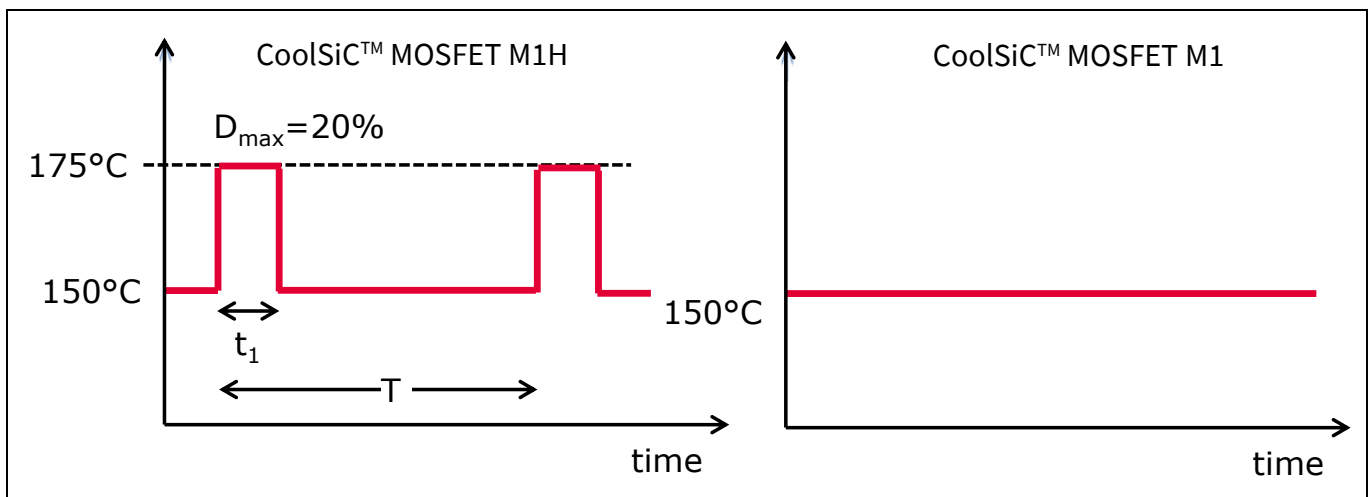

Figure 16 Maximum operation junction temperature definition for CoolSiC™ MOSFET M1H and M1
Figure 16 shows the definition of the allowed operation junction temperature under switching conditions for CoolSiC™ MOSFET 1200V M1H. For normal operation, the maximum junction temperature is 150°C . During overload conditions, a maximum junction temperature above $T_{vj\ op} = 150^\circ\text{C}$ and up to $T_{vj\ op} = 175^\circ\text{C}$ is allowed for a maximum duration of $t_1 = 60$ seconds. The overload duration where the $T_{vj\ op}$ is above 150°C must be within 20% of the load cycle time (T), e.g. $t_1 = 60$ s every $T = 300$ s. Using this increased junction temperature capability, compared to a maximum $T_{vj\ op} = 150^\circ\text{C}$, can enable higher power density, but also can result in higher heatsink temperatures.
The maximum temperature definition shown in Figure 16 should be considered as the maximum $T_{vj\ op}$ limitation including the temperature ripple due to the fundamental output frequency. Figure 17 provides two examples of junction temperature profiles. In Figure 17 (left), $T_{vj\ op}$ exceeds 150°C for $t_1 = 50$ s. It is below 150°C for the rest of the $T = 300$ s cycle. Therefore, the duty cycle is 16.7%. This condition would be allowed from the point of view of a maximum operating junction temperature. Another example is shown in Figure 17 on the right. In this case the temperature exceeds the maximum curve of the junction temperature for the whole period of the load profile. Therefore, this operation would not be allowed.